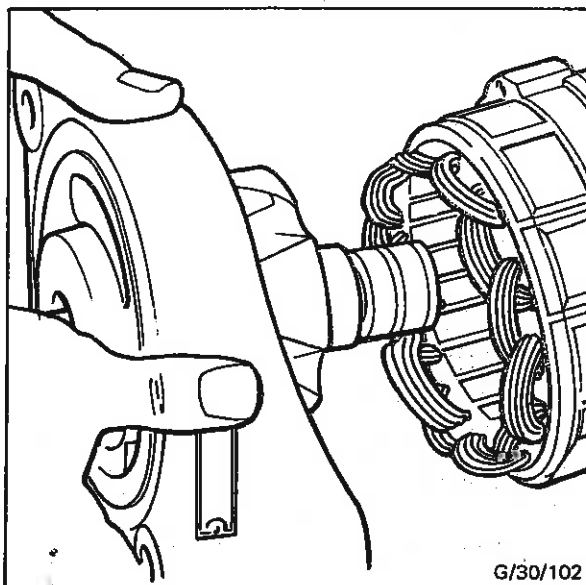

Fig. 63 - Removing Rotor from Stator
7. Remove the three 'through' bolts and spring washers, then remove the alternator from the vice. When 'boattite' grade 'Al' has been used to secure the 'Al' bolts, local heat should be applied with a heated soldering iron, or a small flame to loosen them. No part should be overheated. Using a hide faced mallet, tap the drive end shield away from the stator. As shown in Fig. 63, carefully withdraw the drive end shield complete with rotor from the stator and slip ring end shield, taking care not to damage the slip rings. Do not damage the slip rings when laying drive end shield and rotor assembly on the bench.